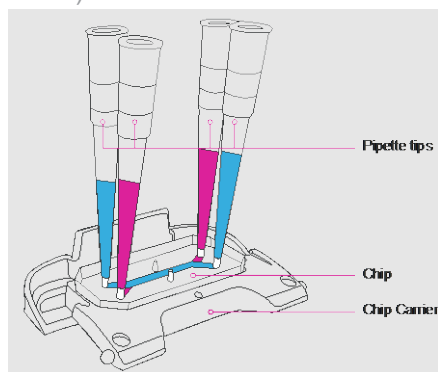

Figure 21: Chip with filtered tips inserted into ports with respective media.
6. Aspirate any excess media found on the chips surrounding the inlet/outlet ports plugged with the P200 pipette tips. (See Figure 21)